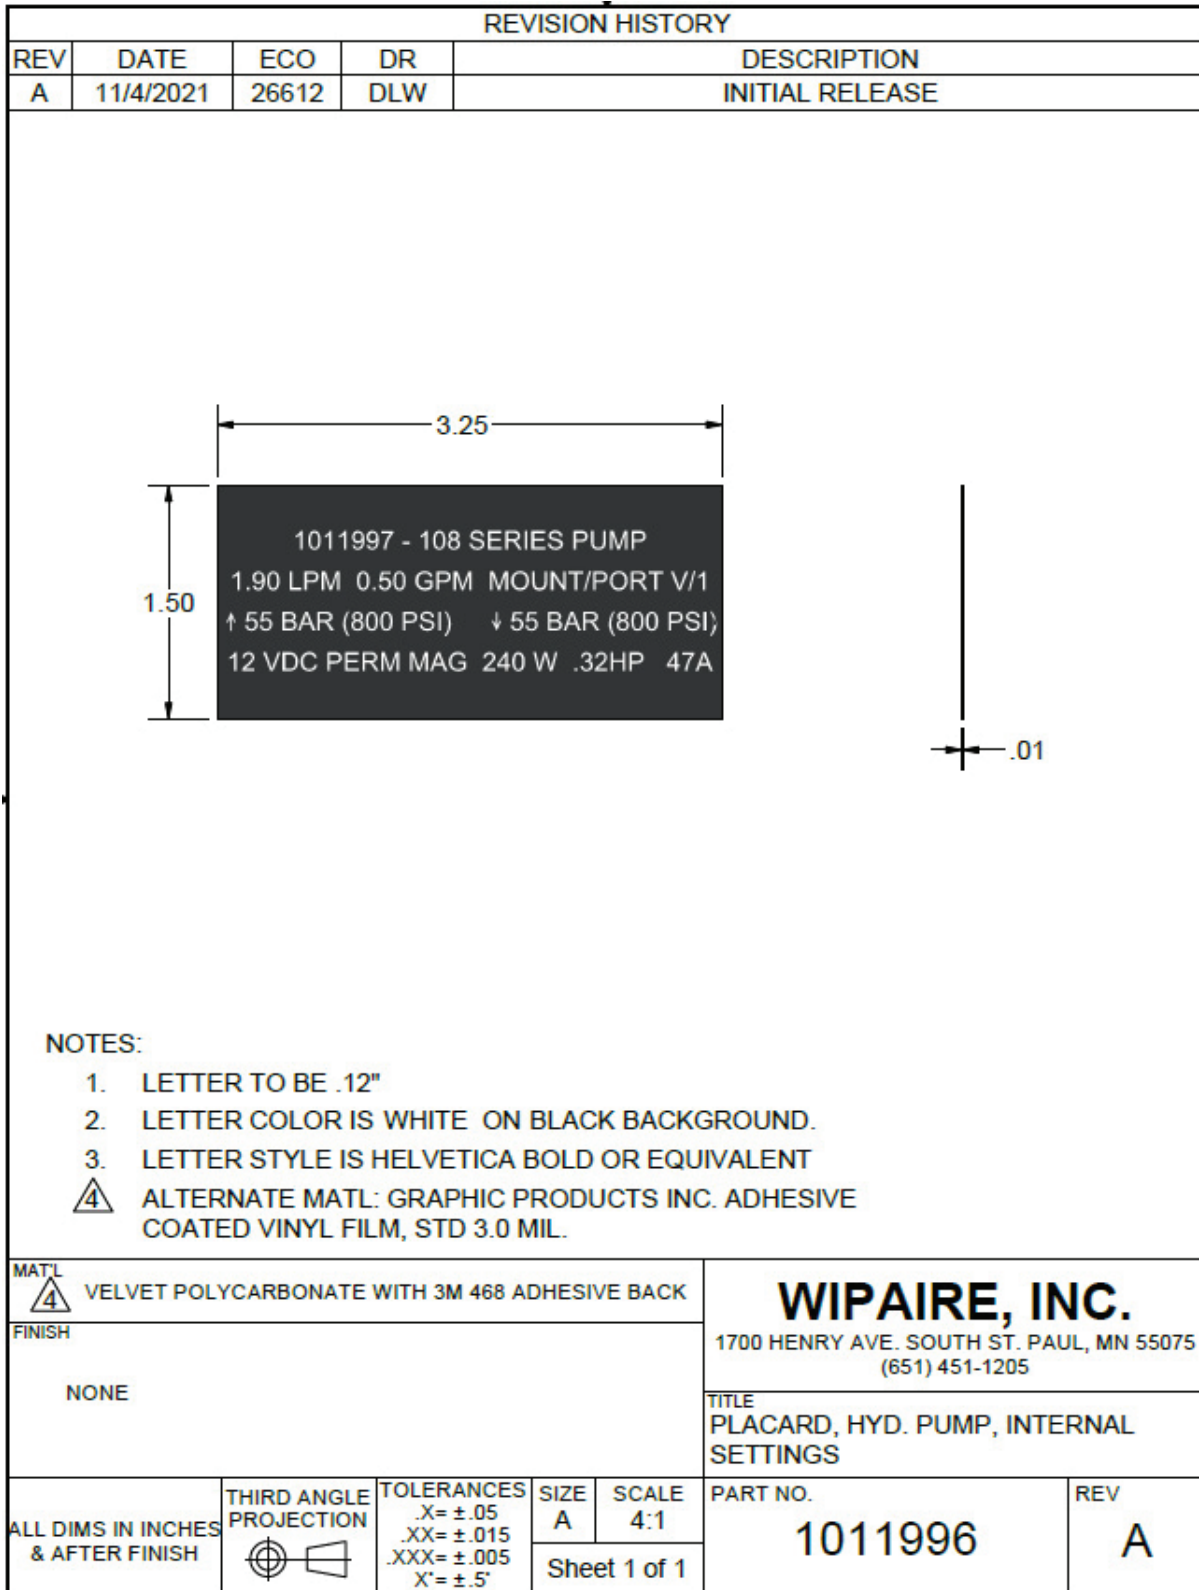

Figure 3 - 1011996 Placard
11. Locally fabricate a placard similar to Figure 3, or contact Wipaire Customer Service to purchase placard p/n 1011996. Place the placard over the top of the current placard on the pump once pressure has been corrected.